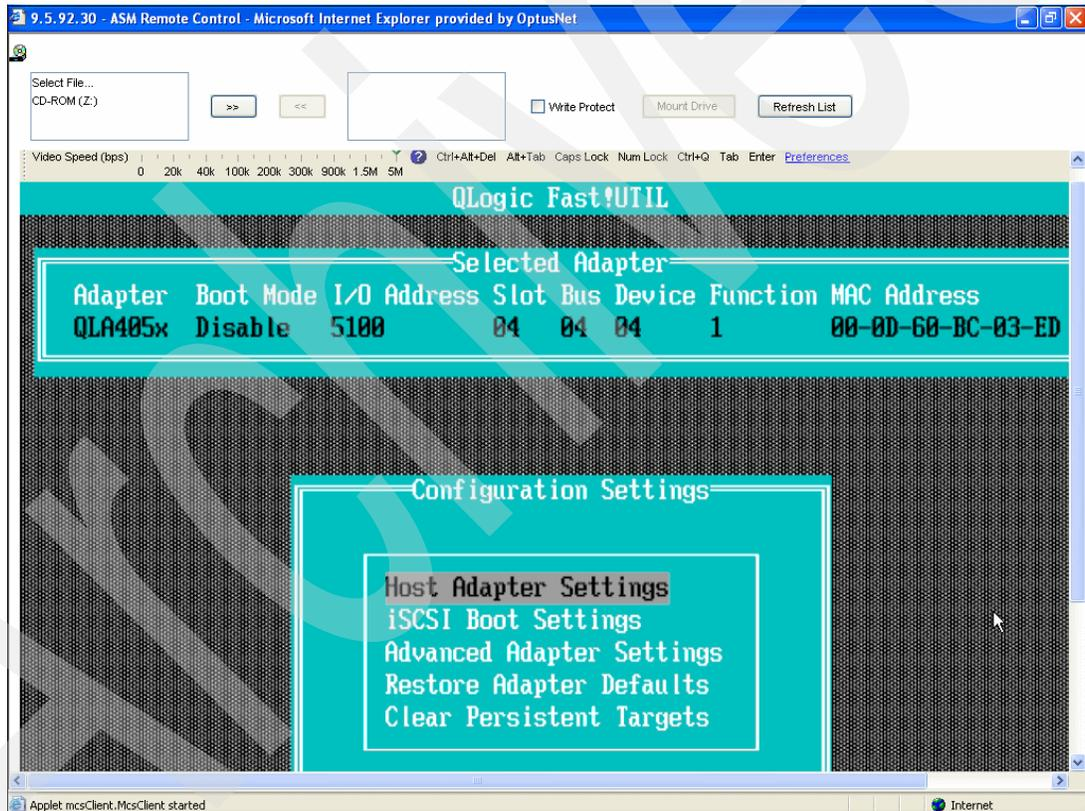

Figure 9-60 The Configuration Settings menu
7. The Configuration Settings menu shown in Figure 9-60 appears. You navigate your way around this utility by using the Up and Down arrow keys to select a menu option, then press Enter. To back up, press the Escape key.